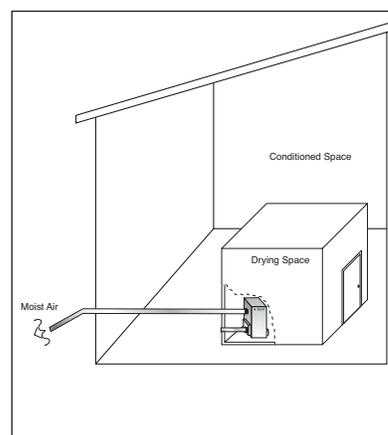

Figure 2.3
b. Inside Drying Space with Isolated Reactivation Duct Fig. 2.3